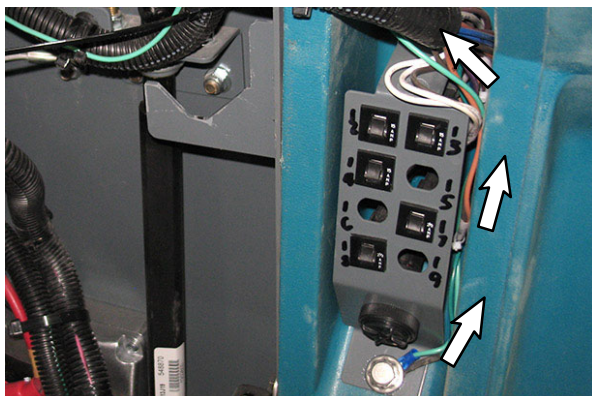

FIG. 4
3. Route the green wire (1) to the main wire harness near the top of the circuit breaker bracket. (Fig. 4)